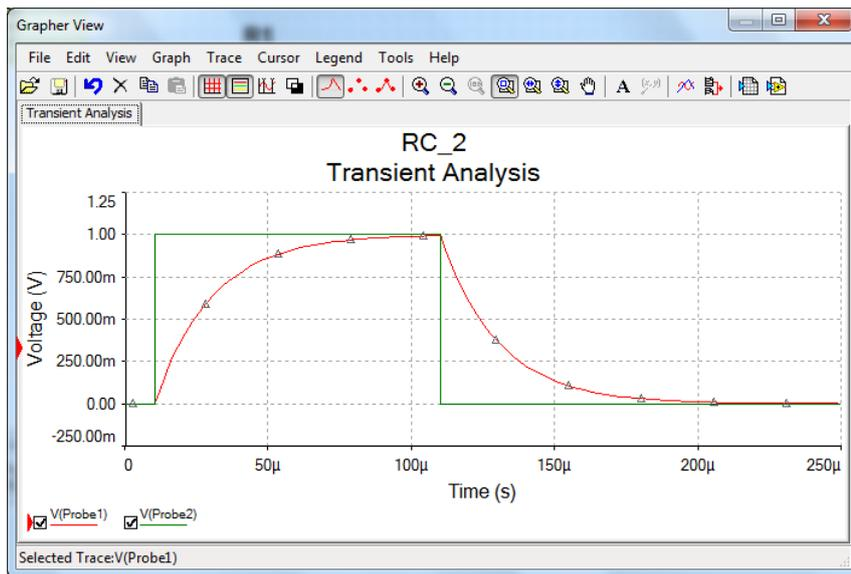

Figure 15 Pulse Response.
- Click **Simulate**. The analysis runs and a "Grapher View" window opens automatically to show a transient response, see figure 15. Use the appropriate buttons to change the black background to white and to turn on grid lines.
- What does the resulting transient analysis, figure 15, tell you about the behaviour of the C-R circuit when driven by a pulse waveform?